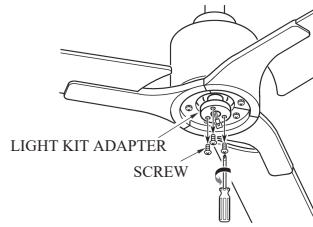

FIG.15
1. Remove 3 screws from light kit adapter. (Do not discard) (See Fig.15)